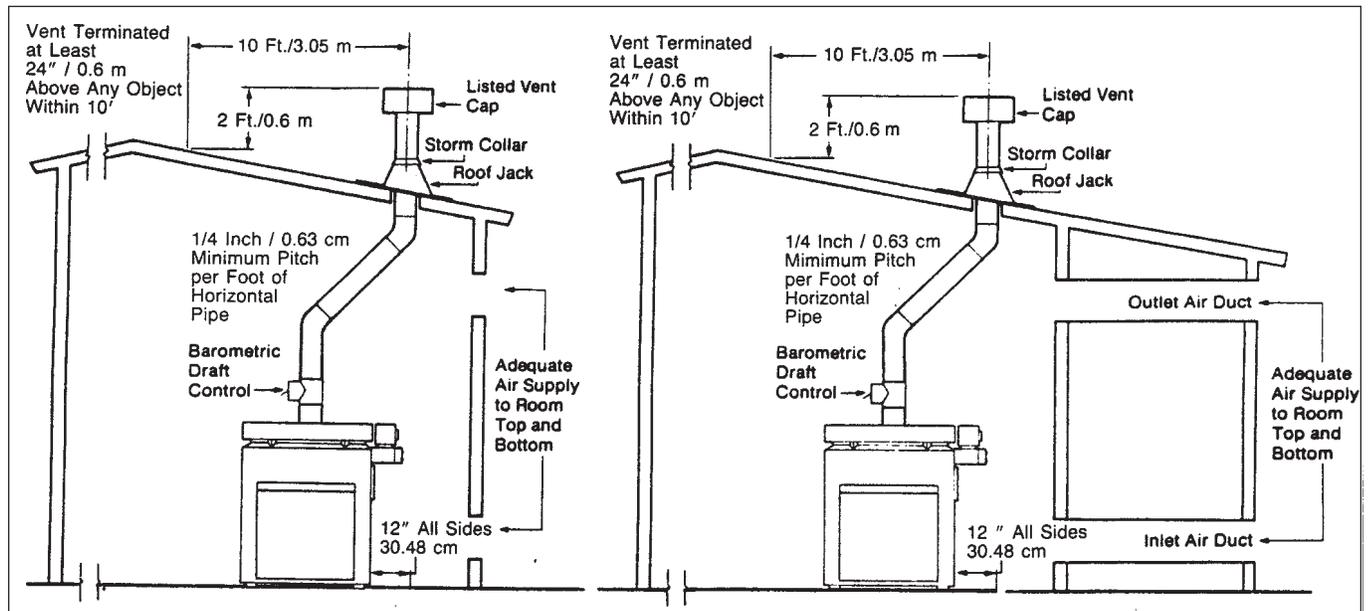

Figure 5. Combustion Air, Indoor Installation.
In general, these requirements specify that the room in which a heater is installed should be provided with two permanent air supply openings; one within 12 inches (305 mm) of the ceiling, the other within 12 inches (305 mm) of the floor. All indoor installations must have openings to outside air for combustion, ventilation, and dilution of flue gases from inside the building (see Figure 5 and Table 2). Jandy Pool Products, Inc. does not recommend indoor installations that do not provide combustion air from outside the building.
The XL-3 model DP3000 has an input rating of 315,000 BTU/Hr. The vent opening requirements for the XL-3 heater are summarized in Table 2. Note that the areas specified are net free areas and should be increased when the openings are covered by screens, louvers, grills or other protective covers (see Figure 5 and Table 2 notes).
The vent collar outlet is to be connected to an unobstructed barometric draft control and vent pipe of the same diameter, terminating in a chimney or directly outside the building. The vent must terminate at least two (2) feet (0.6 m) above the highest point of the roof or other object that is within ten (10) feet (3.0 m) of the vent termination. The vent pipe must have a listed vent cap which allows a full equivalent opening for flue products (see Figure 5).
12. Lift out and rotate the heat exchanger (12). Make sure the insulation strips that were under the header bars stay in position.
13. Rotate the conduit assembly and attach it to the switch box (11). Tighten the compression nut on the other end.
14. Reinstall the screws (10) through the hold-down clips at each corner of the heat exchanger. Put the insulation back in the corners.
15. Reinstall the drain extensions (8) and 1/4" plug (9) in the positions shown in Figure 5.
16. Straighten the siphon loop tubing (7) and install it in the header at the original position of the 1/4" drain plug (see Figure 5).
17. Remove the vent blades (13) from both gap spacers. Reinstall the vent blades using the previously unoccupied holes in each of the gap spacers.
18. Replace the gap spacers (6) on the opposite side of the heater from their original position.
19. Reinstall any previously removed rubber grommets and replace siphon loop cover (5).
20. Replace the heat exchanger end baffles (4).
21. Reinstall the flue collector assembly (3).
22. Replace the top assembly and fasten it in place with the eight screws (2) previously removed. Install the inner stack
23. Reinstall the inner stack (1). Install the chimney cap assembly, or barometric draft control if one was removed.